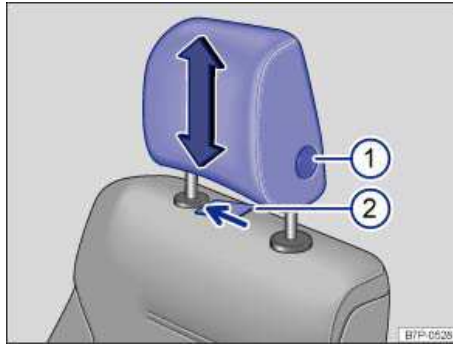

Fig. 47 Removing the front head restraints.
- Slide a flat object, such as a plastic credit card, underneath the right side of the cap on the right-hand seat guide rod ⇒ fig. 47 (2) to unlock the head restraint.
- To release the left-hand guide rod, press button (1) in (towards guide rod) and hold.
- Pull the head restraint out completely while holding button (1).